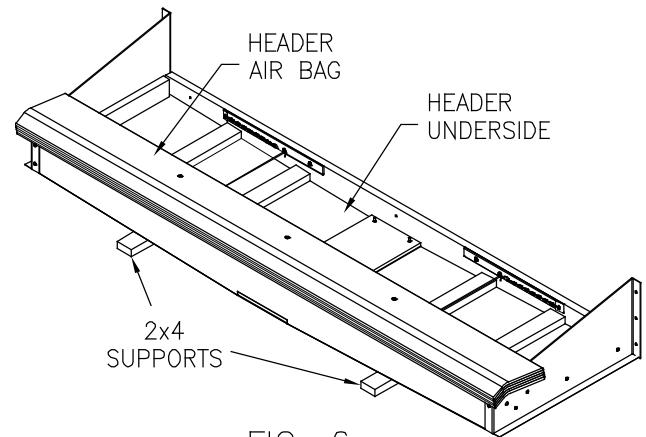

FIG. 6a
- o Place head frame upside down on clean flat 2 x 4 supports (Fig. 6a).